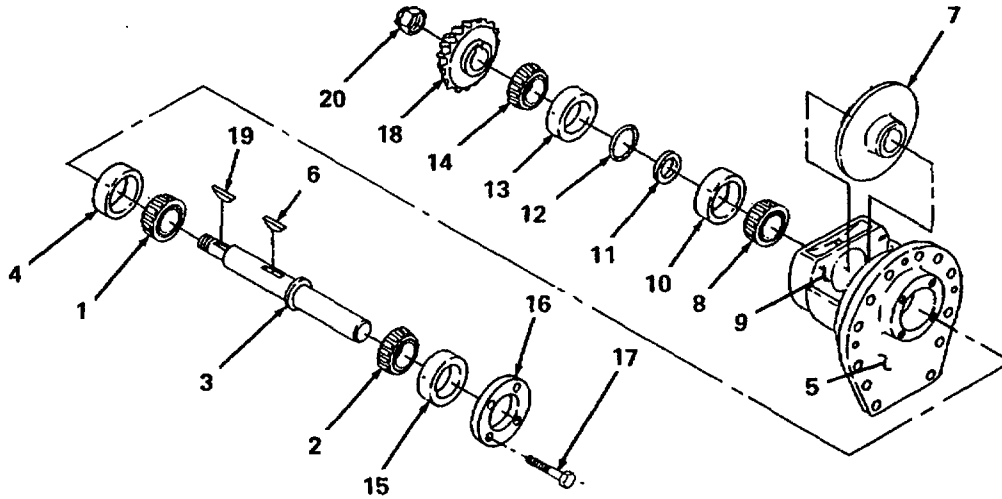

Figure 6-19. High Speed Head Assembly.
- (5) Assemble high speed head assembly.
- (a) Install two outer bearing cones (1, figure 6-19) and (2) on high speed shaft (3).
- (b) Install inner bearing cup (4) in outer wall (5) of assembly.
- (c) Install slinger key (6) in high speed shaft (3).